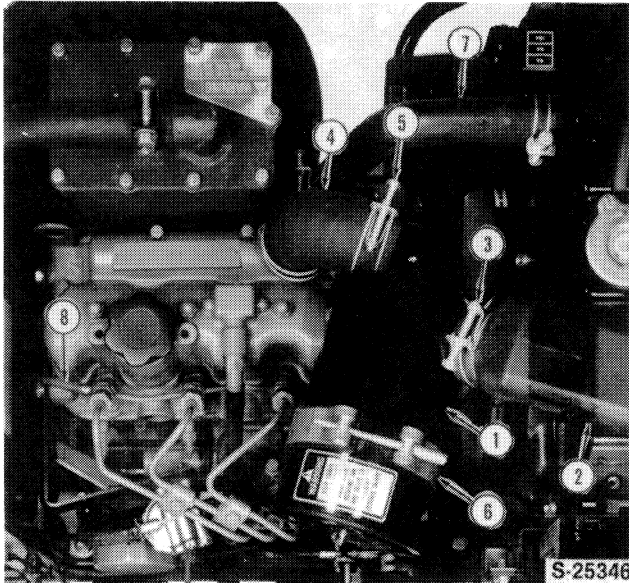

Figure 9
Reference — Figure 9.
9. Remove the upper radiator hose (7), Figure 9.
10. Remove the injector fuel leak-off tube (8), Figure 9.